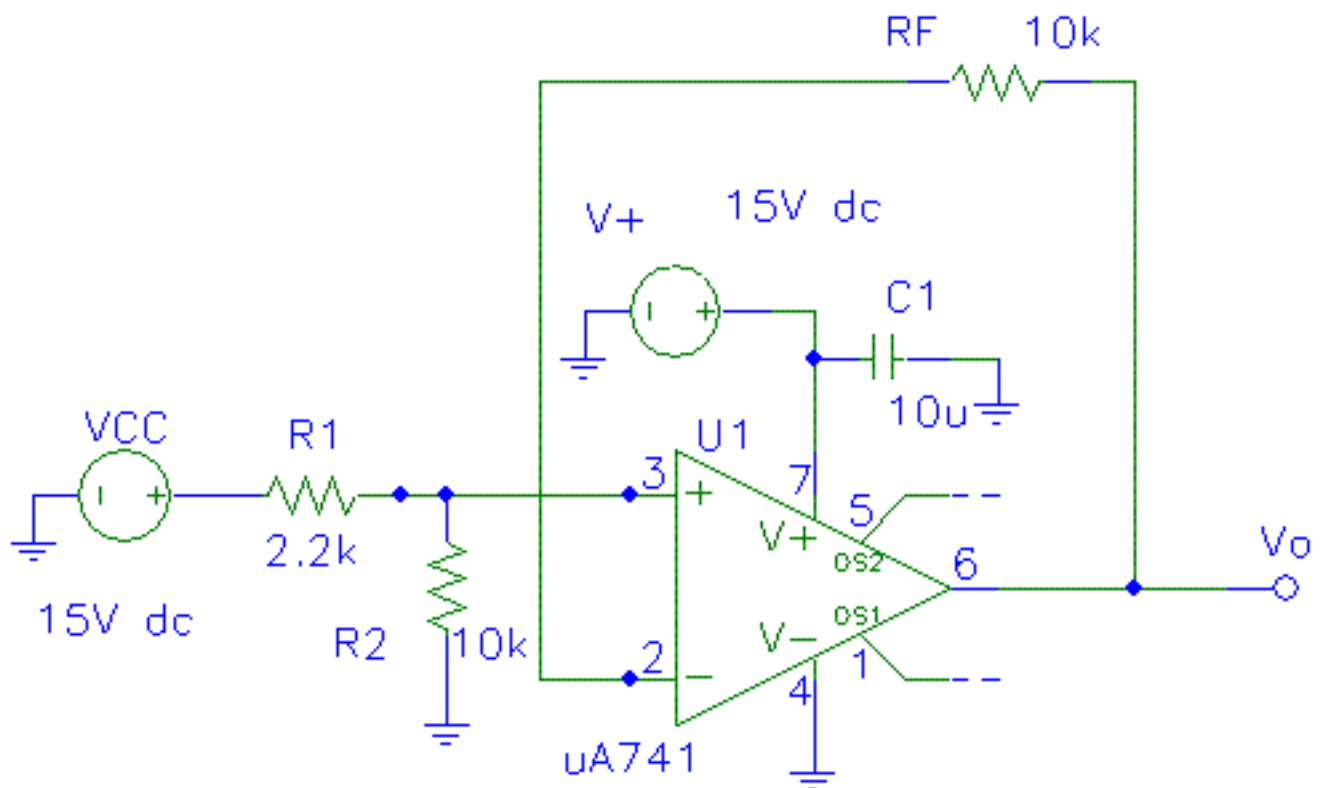

Figure 1. Biasing circuit
1. Wire the circuit shown in the schematic of Figure 1 and apply power to the breadboard. Make sure that pin 4 of the op-amp is now connected to ground. With your DC voltmeter, measure the power supply voltage ( $V_{CC}$ ) and record this value in Table 1. Using this value and the resistors values in Eq. 1, calculate the expected DC output voltages and record them in the last column of the table.